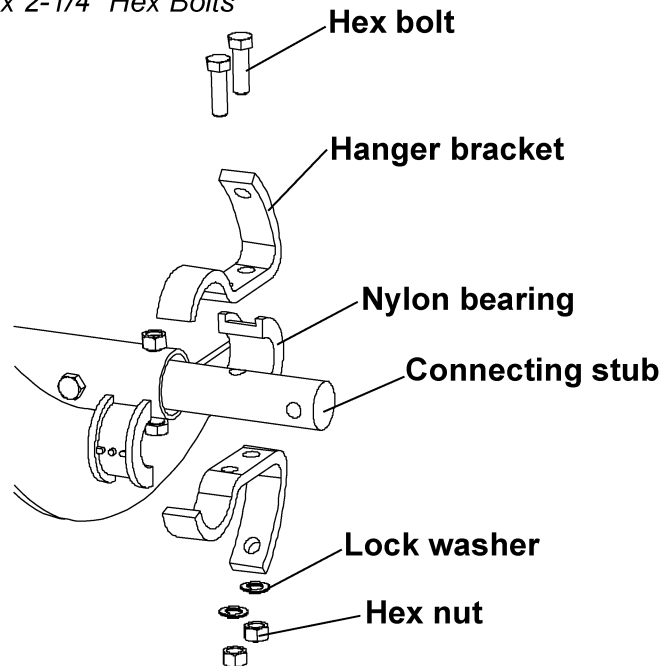

Figure 5M
- A. Bolt the nylon bearings and hanger brackets to the connecting stubs using hex bolts, lock washers and hex nuts as shown in Figure 5M.